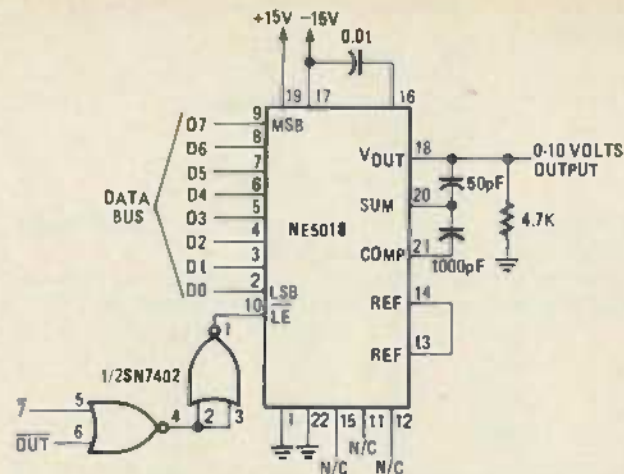

FIG. 17—A SIMPLE 9-BIT digital-to-analog interface.
In this experiment, a Signetics NE5018 eight-bit D/A converter IC has been used. Other similar eight-bit converters may also be used, providing similar results, but the NE5018 has some nice features that make it easy to use in computer systems. These features include a built-in eight-bit output port latch, an on-chip reference and an on-chip buffer amplifier. The NE5018 is wired as shown in Fig. 17. An SN7402 NOR gate chip has also been used to generate the required Latch Enable (LE) signal that will control the flow of eight bits of information to the latch, and thus to the D/A converter.
Actually, the D/A converter does not generate a continuously varying voltage, since only 256 different voltages may be produced, one per eight-bit value. This means that in a converter with a zero to 10-volt range, the individual voltages will be approximately 39 millivolts from the one on either "side" of it. With the interface shown in Fig. 17 connected to your interface breadboard, try and write short programs that will 1) generate a positive-going voltage ramp over and over again, 2) do the same thing for a negative-going voltage ramp, and 3) generate a slowly increasing and then slowly decreasing voltage outputs to generate a triangular output. These programs are listed below: